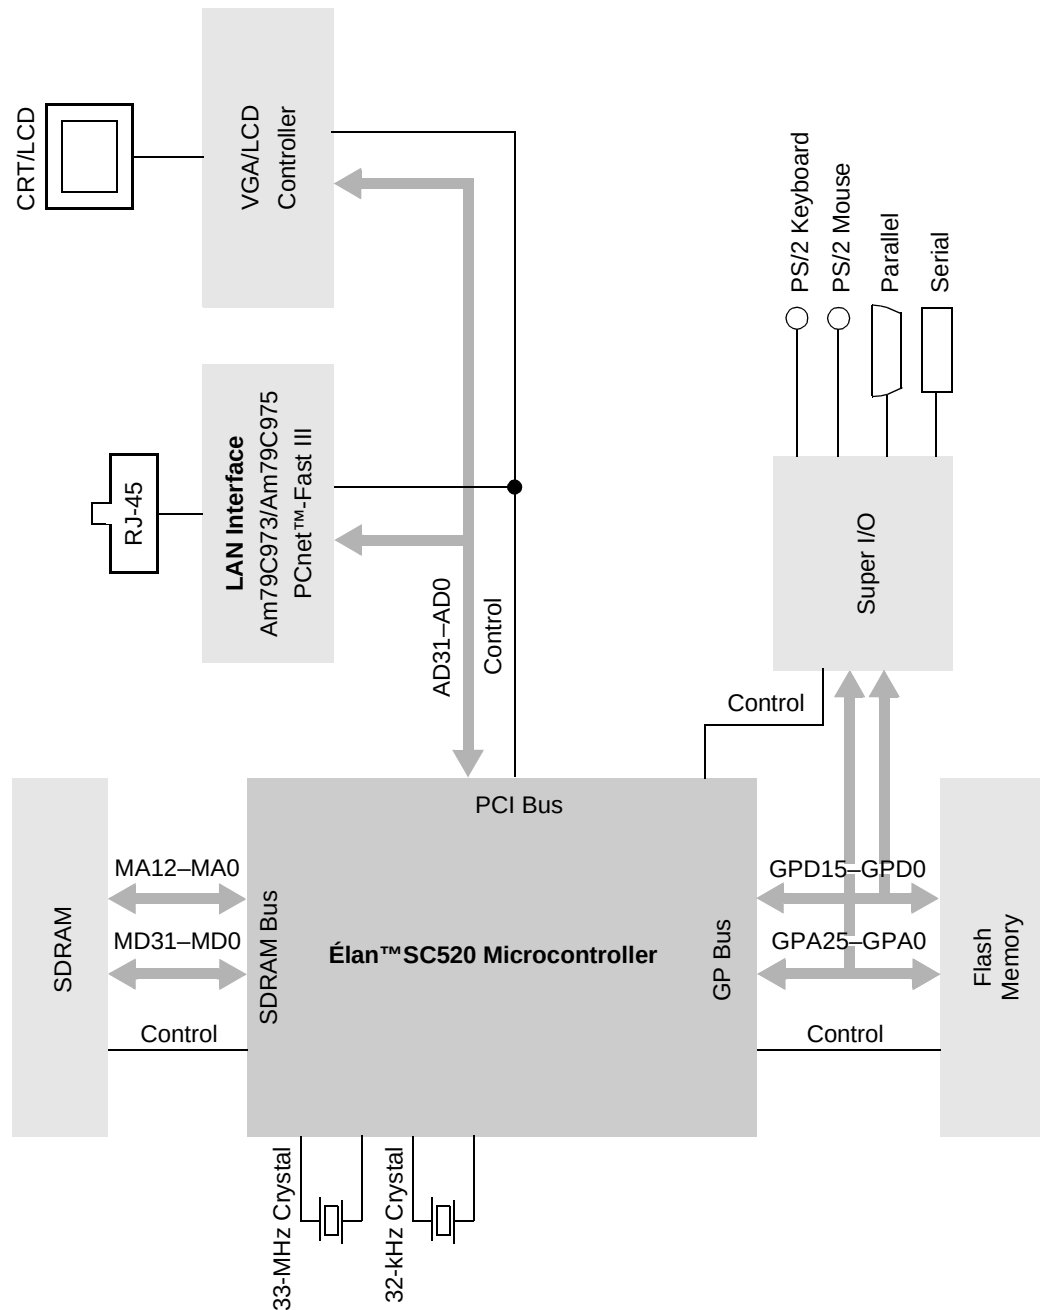

Figure 3. Élan™ SC520 Microcontroller-Based Thin Client Reference Design
- Figure 3 on page 35 shows an ÉlanSC520 microcontroller-based "thin client," which is the modern replacement for the traditional terminal in a remote computing paradigm. Application programs run remotely on a server, and data is warehoused on centrally managed disks at the "server farm." An efficient communications protocol transmits keyboard and mouse commands upstream and transmits video BIOS calls downstream. The thin client renders and displays the graphics for the user.